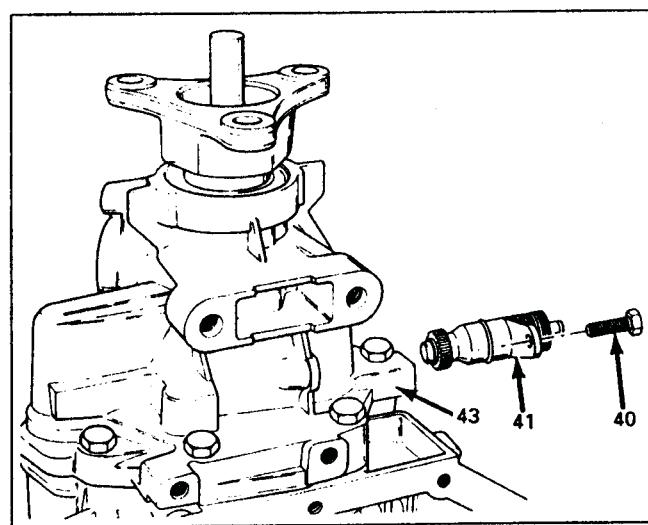

Figure 22
4. Remove the 10mm bolt retaining the speedo driven gear assembly, and remove the assembly from extension housing (See Figure 22).